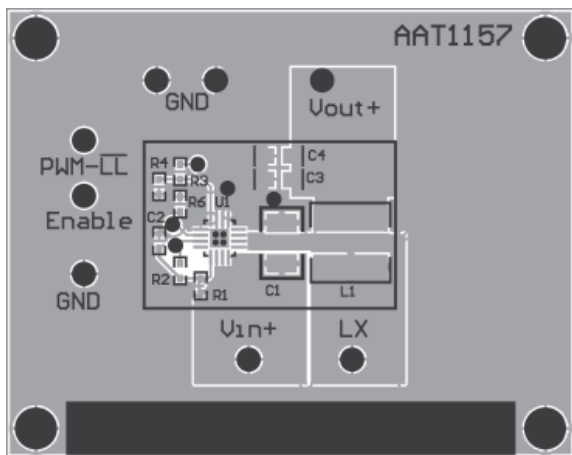

Figure 2: AAT1157 Evaluation Board Top Side.
The input capacitor RMS ripple current reaches a maximum when V_{IN} is two times the output voltage where it is approximately one half of the load current. Losses associated with the input ceramic capacitor are typically minimal and are not an issue. The proper placement of the input capacitor can be seen in the evaluation board layout (C1 in Figure 2).
The suggested PCB layout for the AAT1157 is shown in Figures 2 and 3. The following guidelines should be used to help insure a proper layout.
6. For good heat transfer, four 15 mil vias spaced on a 26 mil grid connect the QFN central paddle to the bottom side ground plane, as shown in Figures 2 and 3.